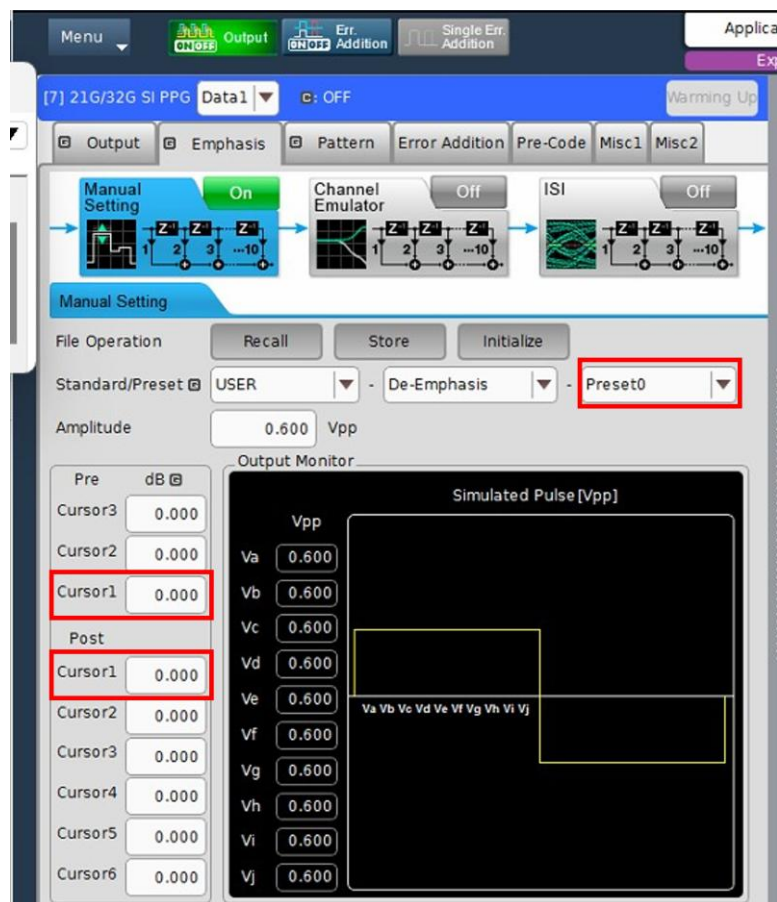

FIGURE 61. EMPHASIS CH1 INTERFACE
1. In the Emphasis tab, create 15 Presets with Deemphasis which match the Table in the DisplayPort 2.1 Specification. On the BERT, go to the PPG Emphasis tab and set the DUT preset to 0. See Figure 61 below.
- a) For DUT Configuration (1) – Enable Preshoot, Deemphasis and measure differential amplitude voltage of bits 57-62 ($|V_{bits(57-62)}|$ (64 bits of 1s) – $V_{bits(57-62)}$ (64 bits of 0s)); mark it as V1.
- b) For DUT Configuration (2) – Set Preshoot to 0 as disabled and enable Deemphasis. Measure differential amplitude voltage of bits 57-62 ($|V_{bits(57-62)}|$ (64 bits of 1s) – $V_{bits(57-62)}$ (64 bits of 0s)); mark it as V2.
- c) For DUT Configuration (3) – Enable Preshoot and set Deemphasis to 0 as disabled. Measure differential amplitude voltage of bits 57-62 ($|V_{bits(57-62)}|$ (64 bits of 1s) – $V_{bits(57-62)}$ (64 bits of 0s)); mark it as V3.